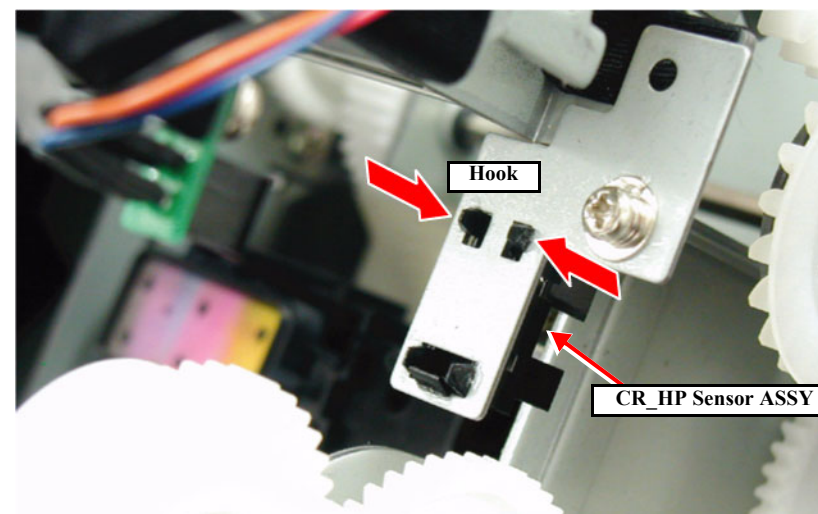

Figure 4-47. Removing the CR_HP Sensor
4. Pinch the two upper hooks of the CR_HP Sensor ASSY and disengage them from the holding plate, and disconnect the connector. (See *Figure 4-47*)